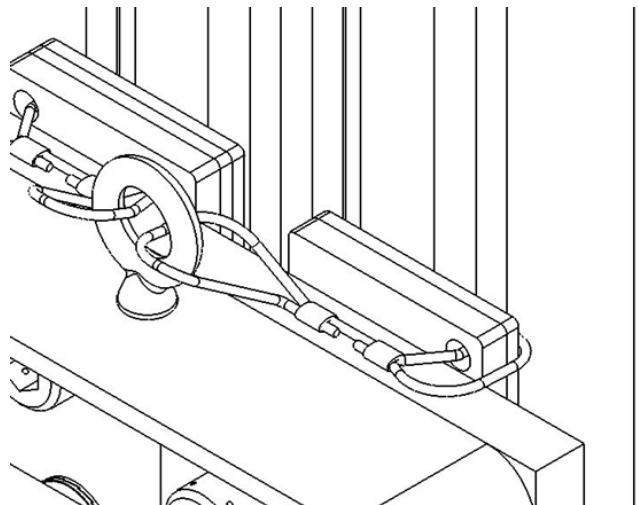

Figure 2: Guide runner shims with safety securement
3. Canrig recommends using safety securement on the guide runner shims (refer to Canrig product bulletin TDS-156). Contact RIGLINE 24/7™ to order new guide runner shims (refer to Table 1) which can be secured using 1/8" wire rope as shown in Figure 2.